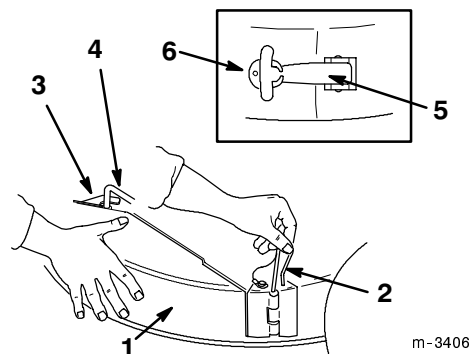

Figure 5
1. Lift the mower deflector and remove the mulch plug, if present. Slide the chute into position with the rear hook around the deflector rod and the front latch aligned. Insert the locking pin (Fig. 5).
2. Hook the flexible latch on the chute into the notched bracket on the back of the mower (Fig. 5)
2. Release the flexible latch and remove the locking pin securing the chute to the mower. Pull the chute out of the mower (Fig. 5).